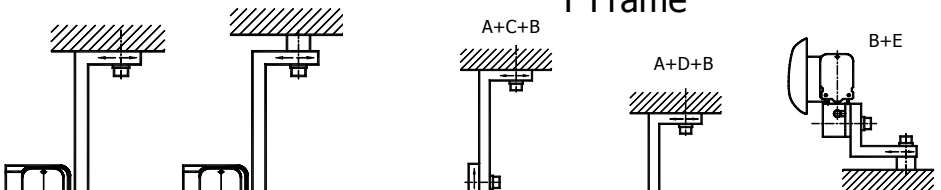

Fig. 22
- f. Install the ruler by making use of the T frame (See Fig. 22 – Fig. 31. A: Plate A of T frame; B: Plate B of T frame; C: Extension plate C of T frame; D: Extension plate D of T frame; and E: Part E of T frame).